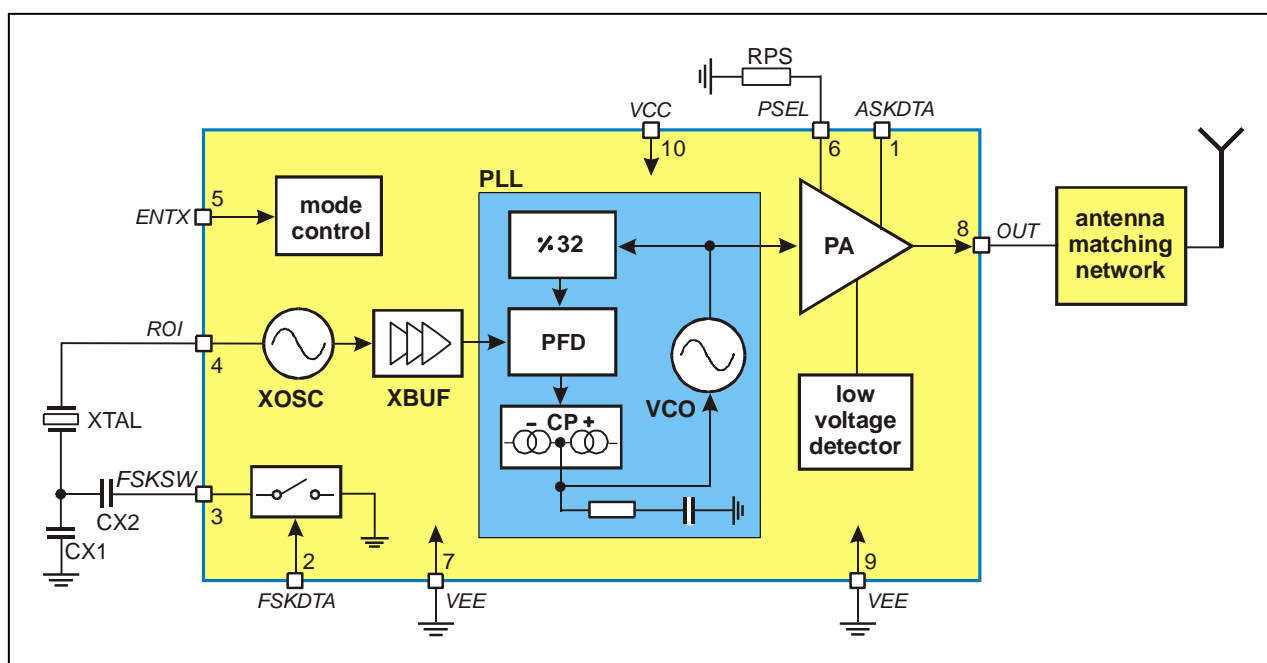

Fig. 1: Block diagram with external components
As depicted in Fig.1, the TH72035 transmitter consists of a fully integrated voltage-controlled oscillator (VCO), a divide-by-32 divider (div32), a phase-frequency detector (PFD) and a charge pump (CP). An internal loop filter determines the dynamic behavior of the PLL and suppresses reference spurious signals. A Colpitts crystal oscillator (XOSC) is used as the reference oscillator of a phase-locked loop (PLL) synthesizer. The VCO's output signal feeds the power amplifier (PA). The RF signal power  $P_{out}$  can be adjusted in four steps from  $P_{out} = -12$  dBm to +9.5 dBm, either by changing the value of resistor RPS or by varying the voltage  $V_{PS}$  at pin PSEL. The open-collector output (OUT) can be used either to directly drive a loop antenna or to be matched to a 50Ω load. Bandgap biasing ensures stable operation of the IC at a power supply range of 1.95 V to 5.5 V.